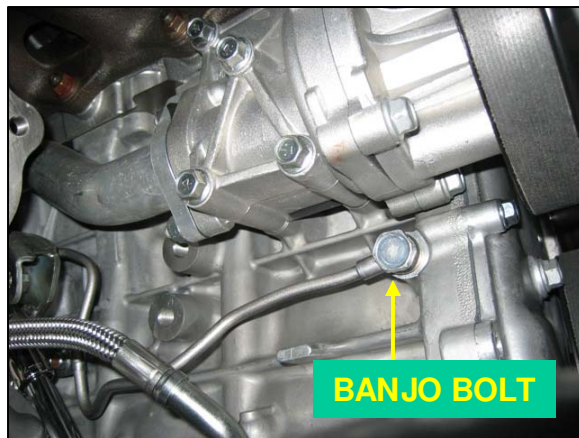

Fig. 39
42. Install the oil feed line into the engine block using the OE banjo bolt and 2 new copper crush washers supplied in kit. Torque the banjo bolt to 12-14 lb-ft (15-19 N-m). Install the support bolt through the oil line tab into the engine block and tighten to 5-9 lb-ft (63-107 lb-in / 7-12 N-m) (2 bolts, 10mm & 17mm sockets). See Figs. 39 & 40.